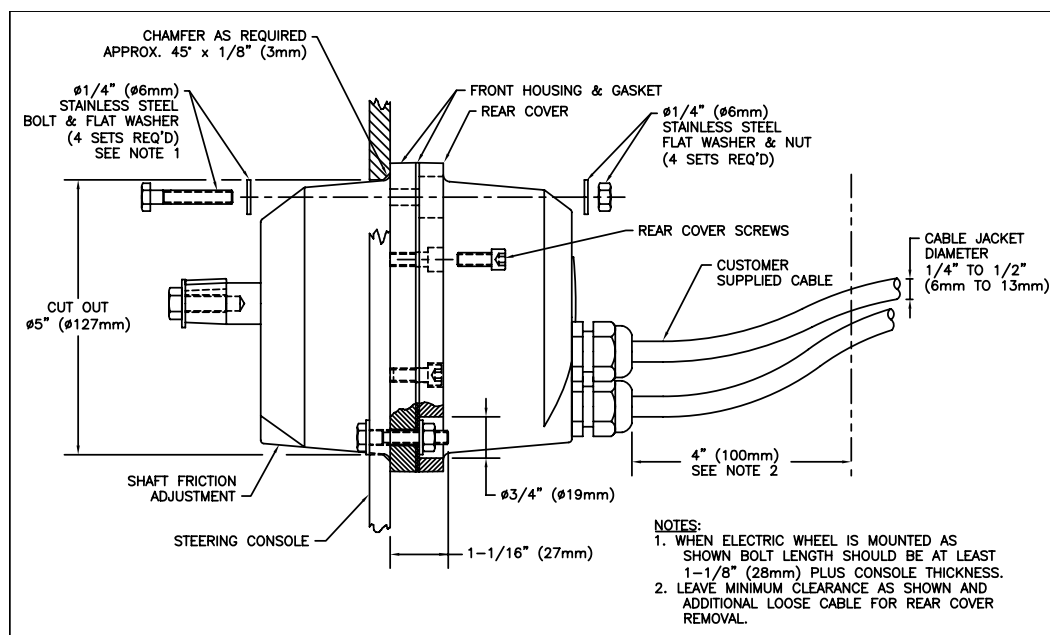
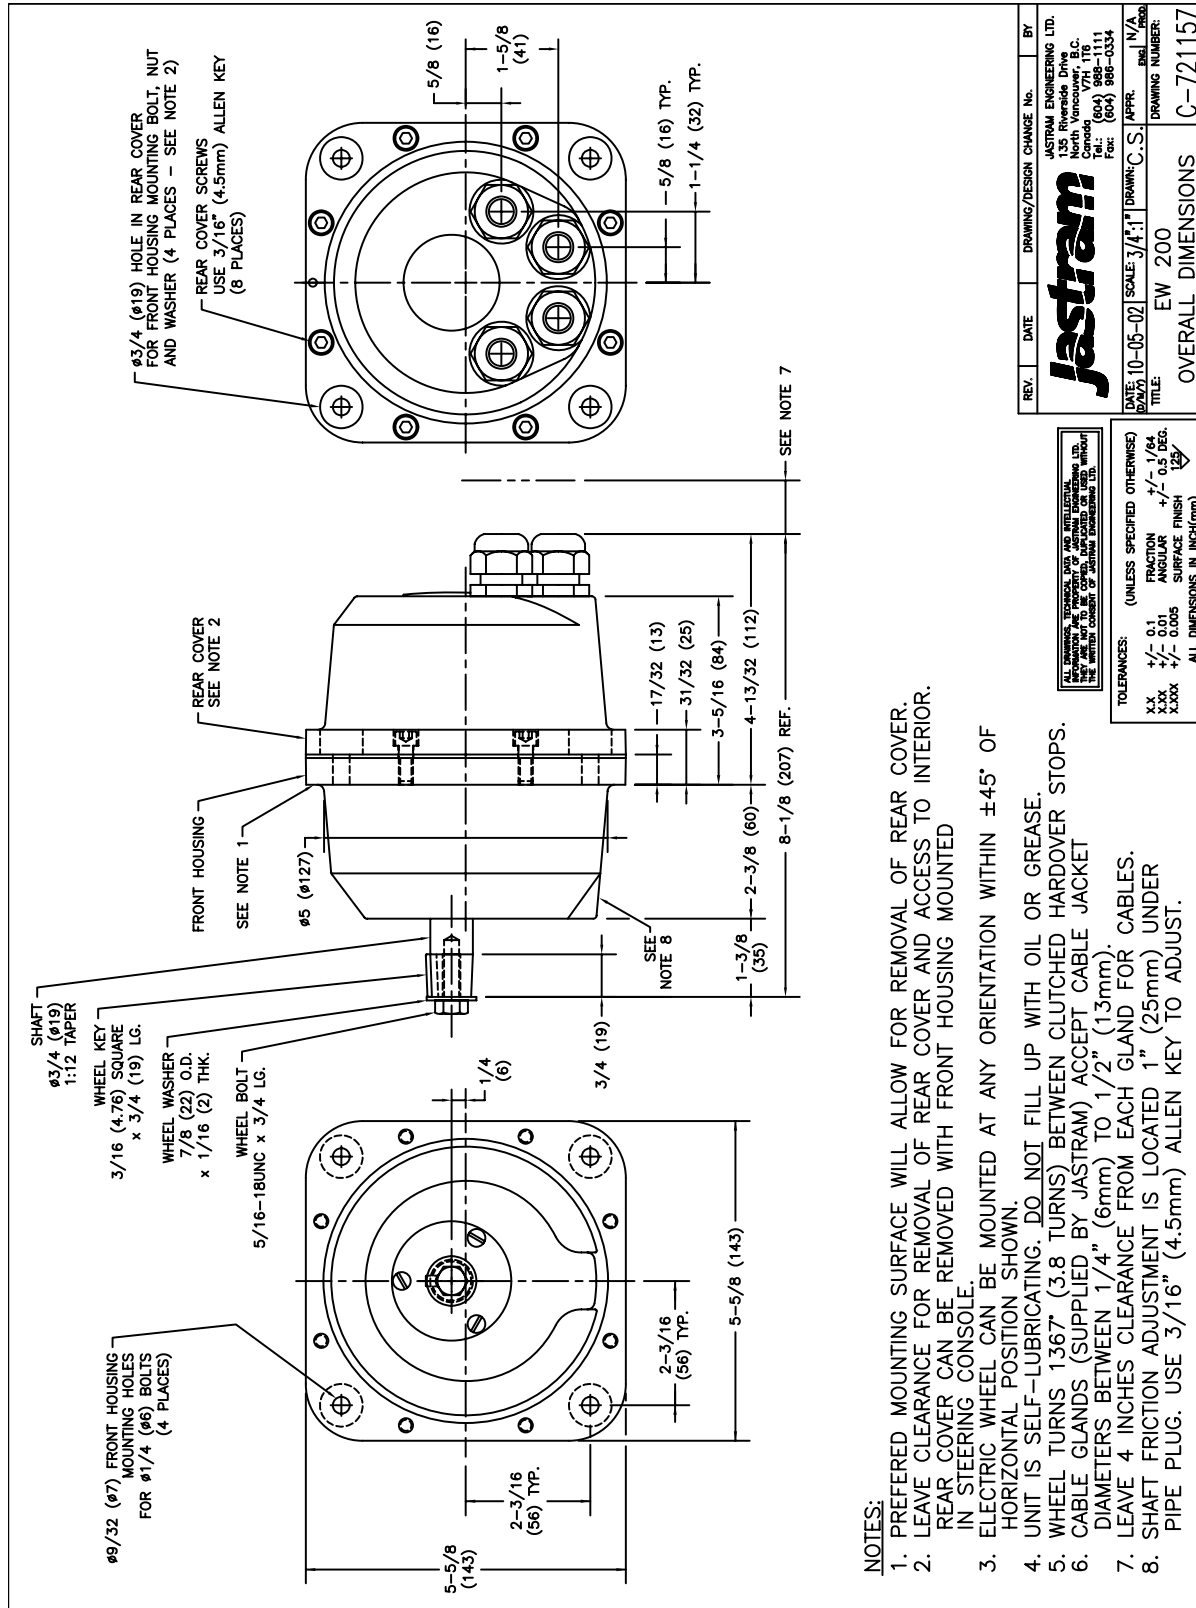

Figure 1 – EW 200 Mounting Arrangement
Figure 2 – EW 200 Overall Dimensions
- a) Refer to Figure 1 for EW mounting arrangement and Figure 2 for EW overall dimensions and hole pattern. Note the clearances required.
- d) See Figure 1 for location of the EW 200 shaft friction adjustment.